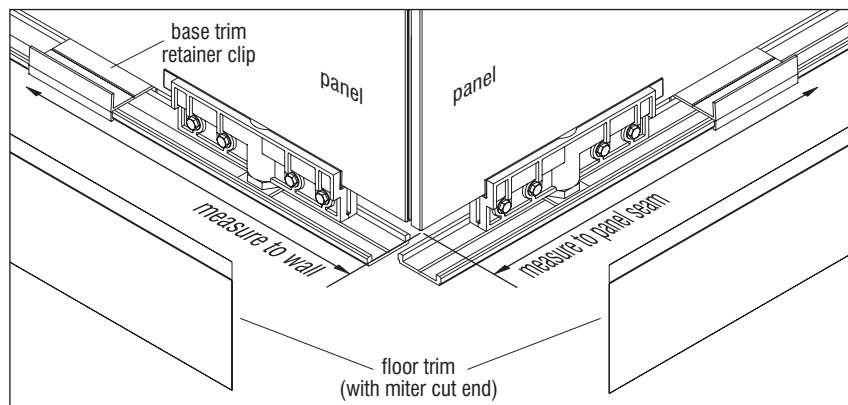

Figure 3 - Measure and Cut Floor Trim
2. Measure from the outside edge of the glass panel to the furthest panel seam that the 10' trim will reach or to a wall or post where it will end. Add the thickness of the floor trim (0.688") and seal (0.085") to the measurement. Cut trim to that dimension and miter cut the end where the corner will be (Figure 3).